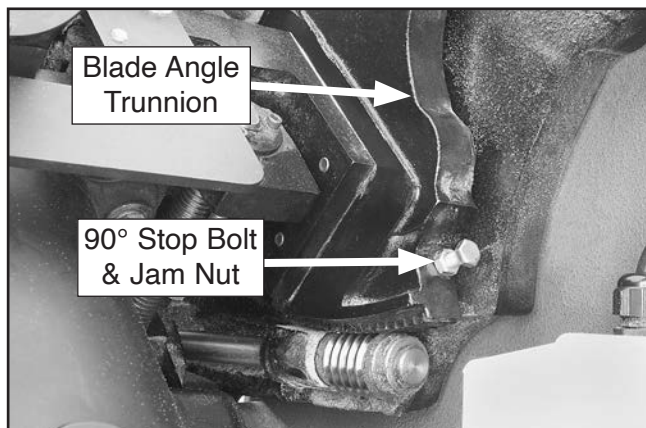

Figure 101. 90° stop bolt and jam nut.
5. Open motor cover, loosen jam nut shown in **Figures 101–102**, adjust stop bolt up or down according to how far off blade was from 90°, then repeat **Steps 2–3** until blade stops at 90°.